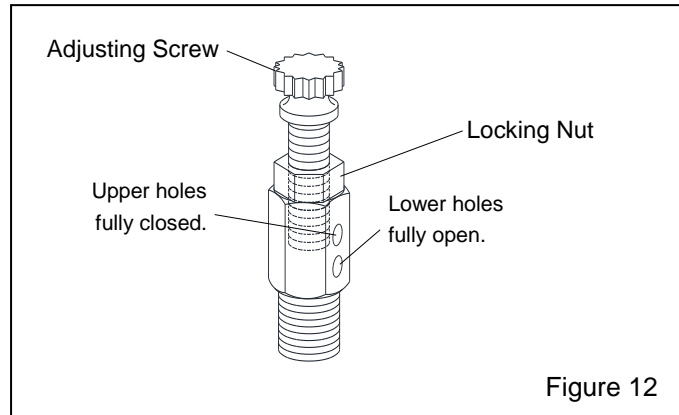

Figure 12
**7.4 Metering Valve Adjustment – Figure 12**
**7.4.2** If media does not flow smoothly, loosen the locking nut, and adjust the metering screw until the upper holes in the metering stem are closed-off and the lower holes are fully open. See Figure 12. This adjustment is a starting point.